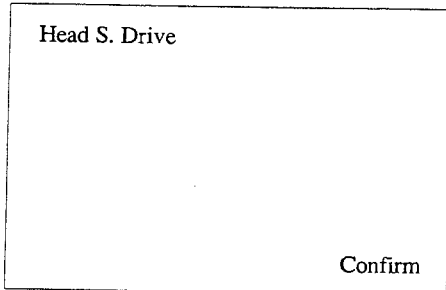

Fig. 1
- 1) Turn ON the main power to the machine. Press the **Mode Select** key. Press the **+** key and **-** key as **+**, **+**, **-**, **+**, **+**, **+**, **+** and **+** following the written order. Then, press **20** to select the machine head independent operation mode. (Fig. 1)